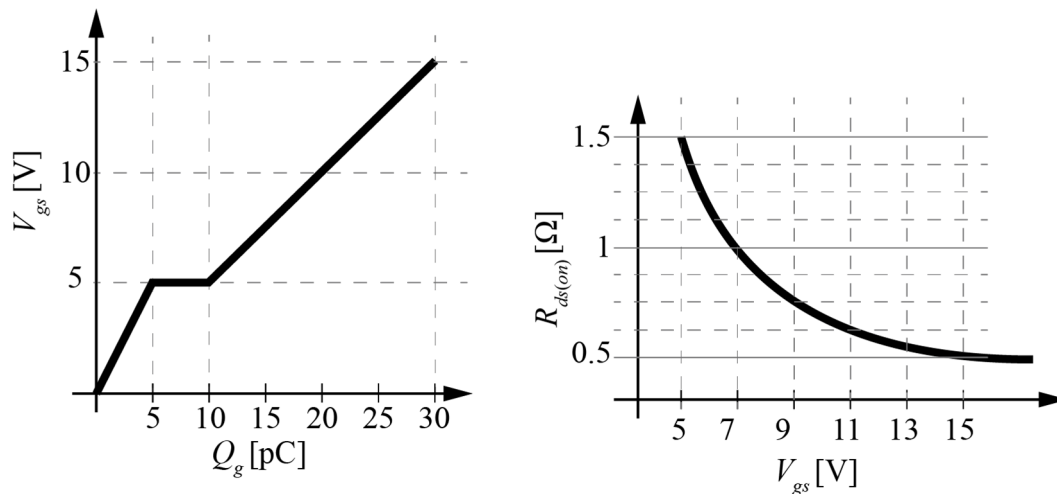

Figure 2: MOSFET parasitic parameters in the Flyback of Fig. 1
The transformer magnetizing inductance and the output capacitance are large. The MOSFET exhibits an on-resistance and gate charge as shown in the plots of Fig. 2. Consider conduction and gate drive losses of the MOSFET. You may assume that the gate driver used in the flyback has very high current drive capability.
- Given the parasitics of Fig. 2, select the gate drive voltage $5 \leq V_{GS} \leq 15$ V so that the efficiency of the converter is maximized.